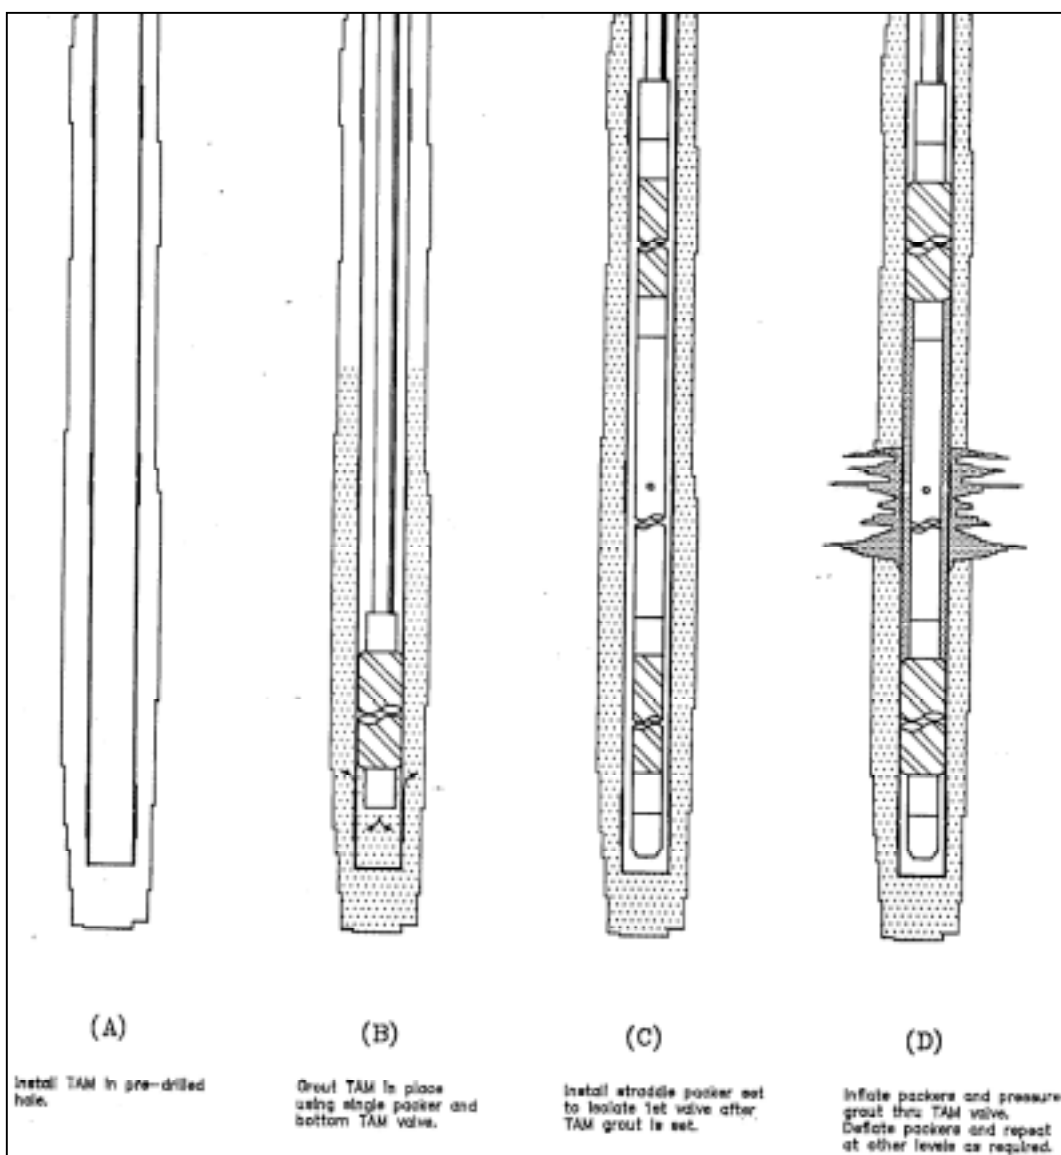

Figure 6 - TAM pressure grouting stages
The actual sequence of operations normally consists of two or more separate stages of grouting as illustrated in Figure 6. In the first stage (A) the TAM is installed in a predrilled hole and in (B) is grouted in place using a light "sleeve" grout or a gravel packing for low pressure applications. This operation being required to seal the Tam into the borehole and to prevent flow of grout, under pressure, up the borehole/TAM interface.